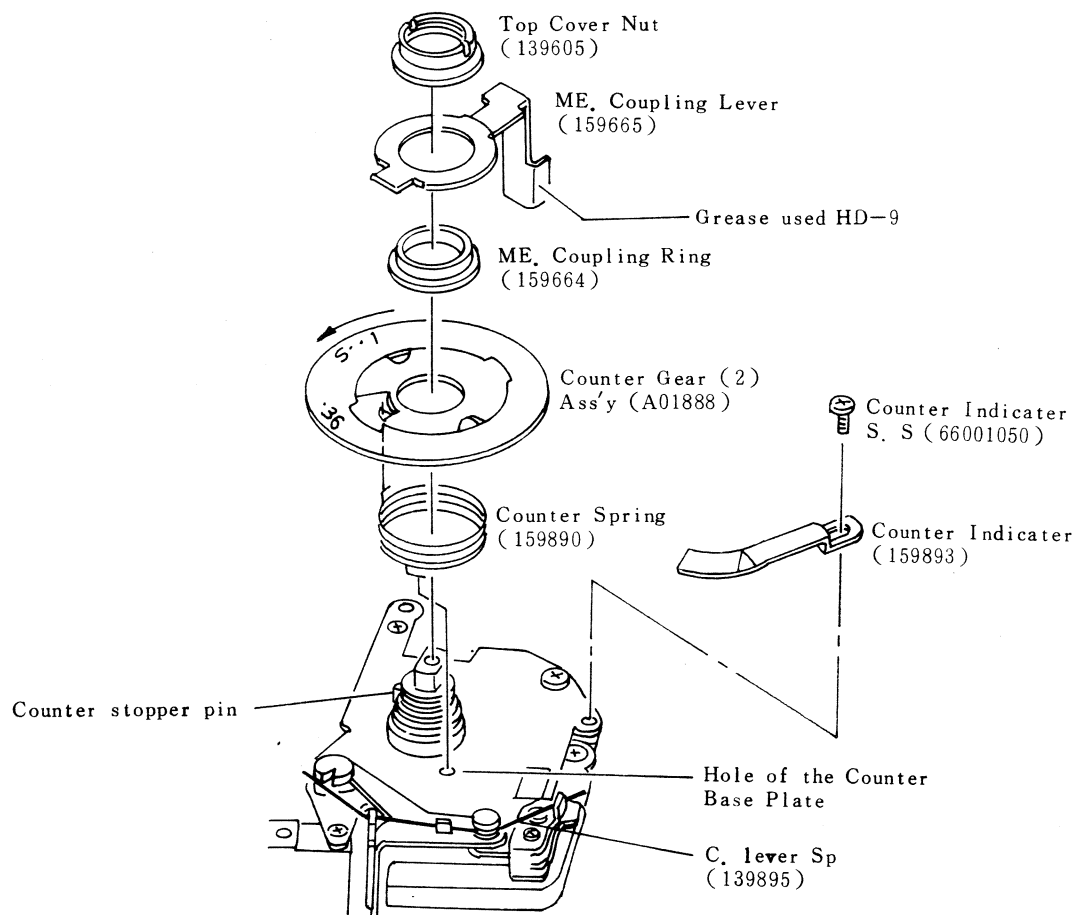

Fig 44
- e) Fit the C. Lever Spring (139895) as shown in (Fig 44).
- f) Hook the Counter Spring (159890) into the hole of the Counter Gear (2) Ass'y (A01888).
- g) Fit the Counter Gear (2) Ass'y with the Counter Spring over the Shaft of the Counter Base Plate Ass'y (A01885) and then hook the Counter Spring into the hole of the Counter Base Plate Ass'y.
- h) Turn the Counter Gear (2) Ass'y in the direction of arrow as shown in (Fig 44) and come to a stop it then lift up it about 2.0 ~ 3.0 mm and lift down it.
- i) Set the ME. Coupling Ring (159664), ME. Coupling Leve (159665) and tighten the Top Cover Nut (139605). Check the Counter Gear (2) Ass'y for its operation. Counter Gear (2) Ass'y should normally be returned smooth under spring forces.